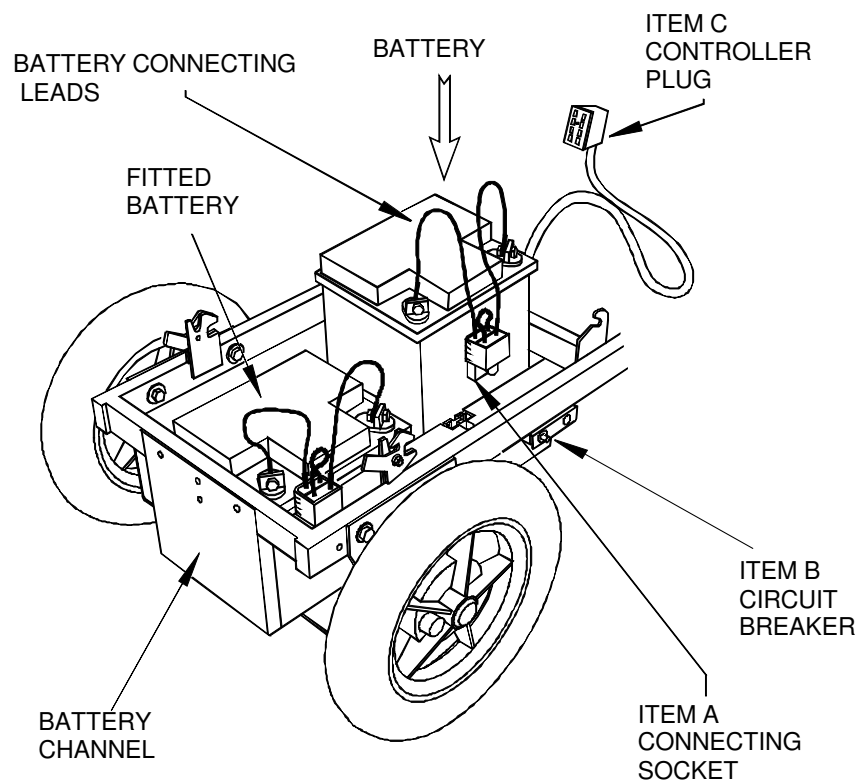
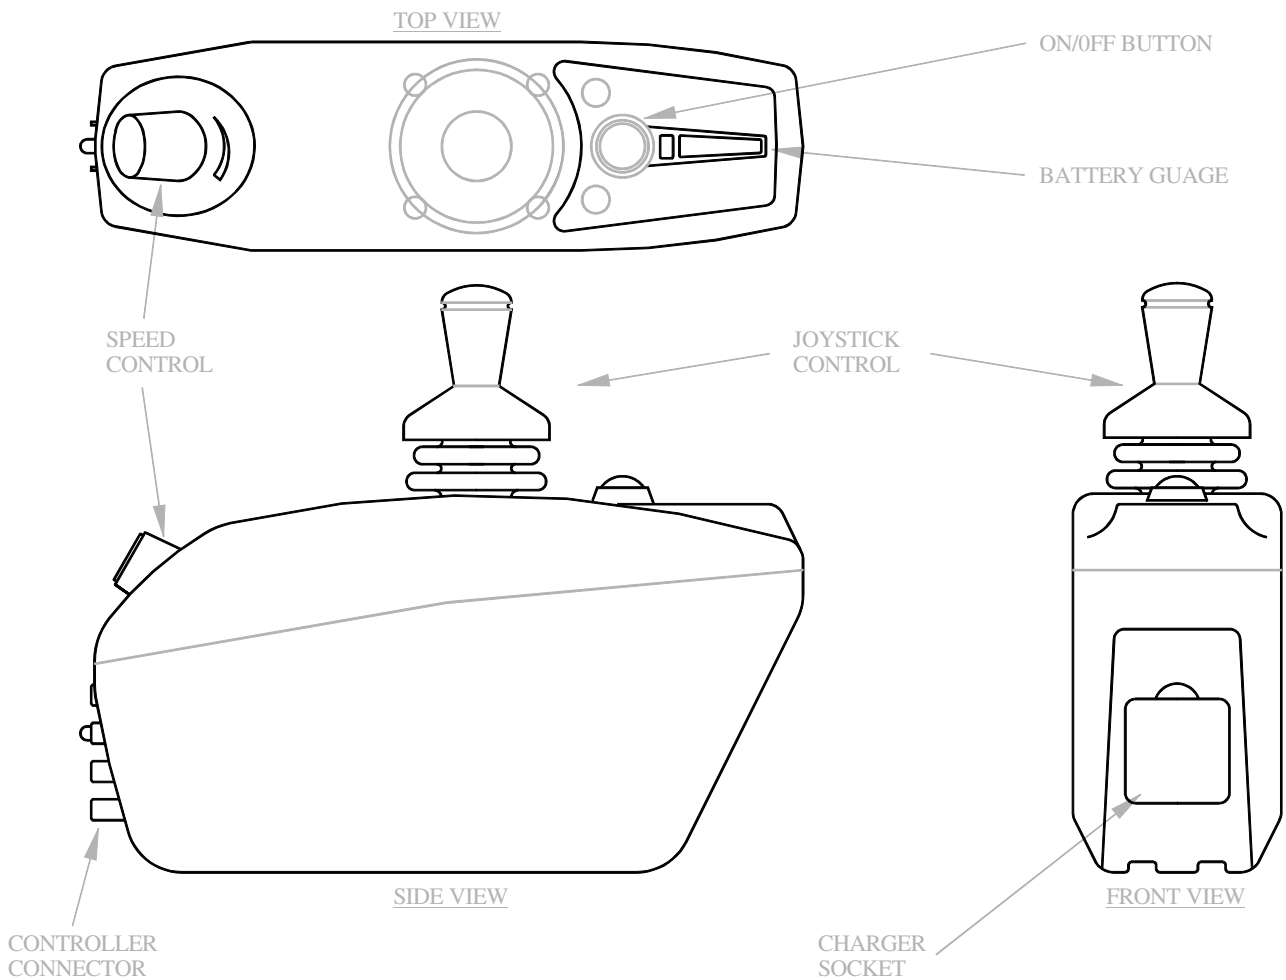

FIG.8.
FIG.10.
Disconnect the two battery connection plugs by firmly gripping the connector and pulling it up until it is clear from its socket, 'Item A' in figure 8. The batteries can then be lifted out.
3. Connect the charger output plug, 'Item A' in figure 8, to the wheelchair charger socket. See figure 10.
This is a green pushbutton switch fitted in front of the joystick which turns the controller on and off. **Do not** use this switch to stop the wheelchair except in an emergency. See figure 10.
This is a 10 segment illuminated display which indicates if the controller is turned on and also gives the status of the battery, the controller and the wheelchair electrical system. See figure 10.
Controls the speed and direction of the wheelchair. Push the joystick in the direction you wish to go. The further you push it, the faster the speed. Releasing the joystick stops the wheelchair automatically. See figure 10.
Sets the maximum speed of the wheelchair: turn clockwise to increase the speed, anti-clockwise to decrease. See figure 10.